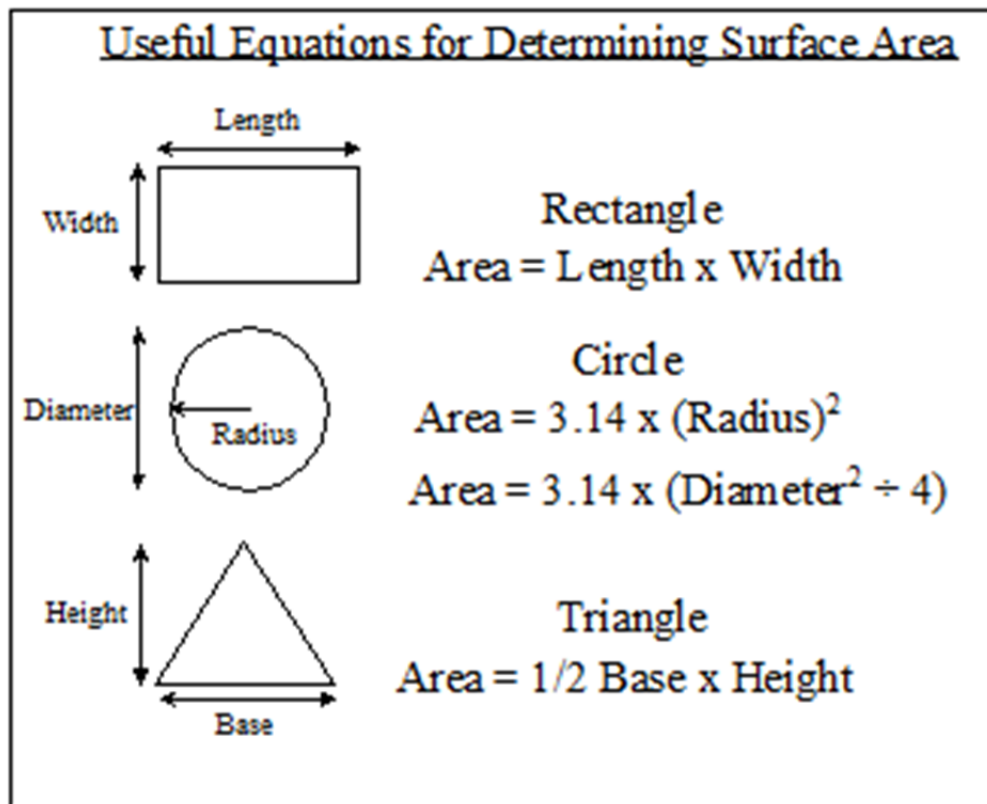

Figure 3. Useful equations for determining surface area.
Step 2: Determine Coverage Area - The coverage area (in square feet, ft²) is the entire landscape area over which the station applies water. If available, obtain an “as-built” or scaled drawing of the irrigation system to determine the dimensions of the landscape area. If maps or drawings are not available, then measure the landscape using a measuring wheel or tape measure. The equations provided in Figure 3 are useful for calculating surface area for common shapes.
Step 1: Determine Coverage Area - Determine the landscape area (in square feet, ft²) for each station on the system. This can be computed from a detailed design drawing, or estimated using equations for calculating area as shown in Figure 3.